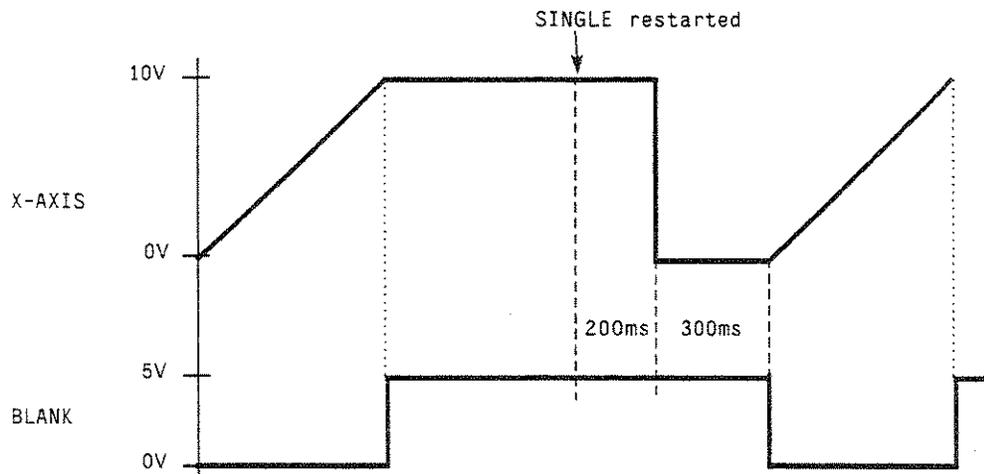

Fig. 2-39 Signal example sweep: MODE = SINGLE, BLANK TIME = LONG
- SINGLE** Single run from the starting point to the stop point. If SINGLE is selected, the run is not started yet. Function EXECUTE SINGLE SWEEP ▶ to be executed, which can be used to start the run, is displayed below the MODE line (cf. Fig. 2-39).